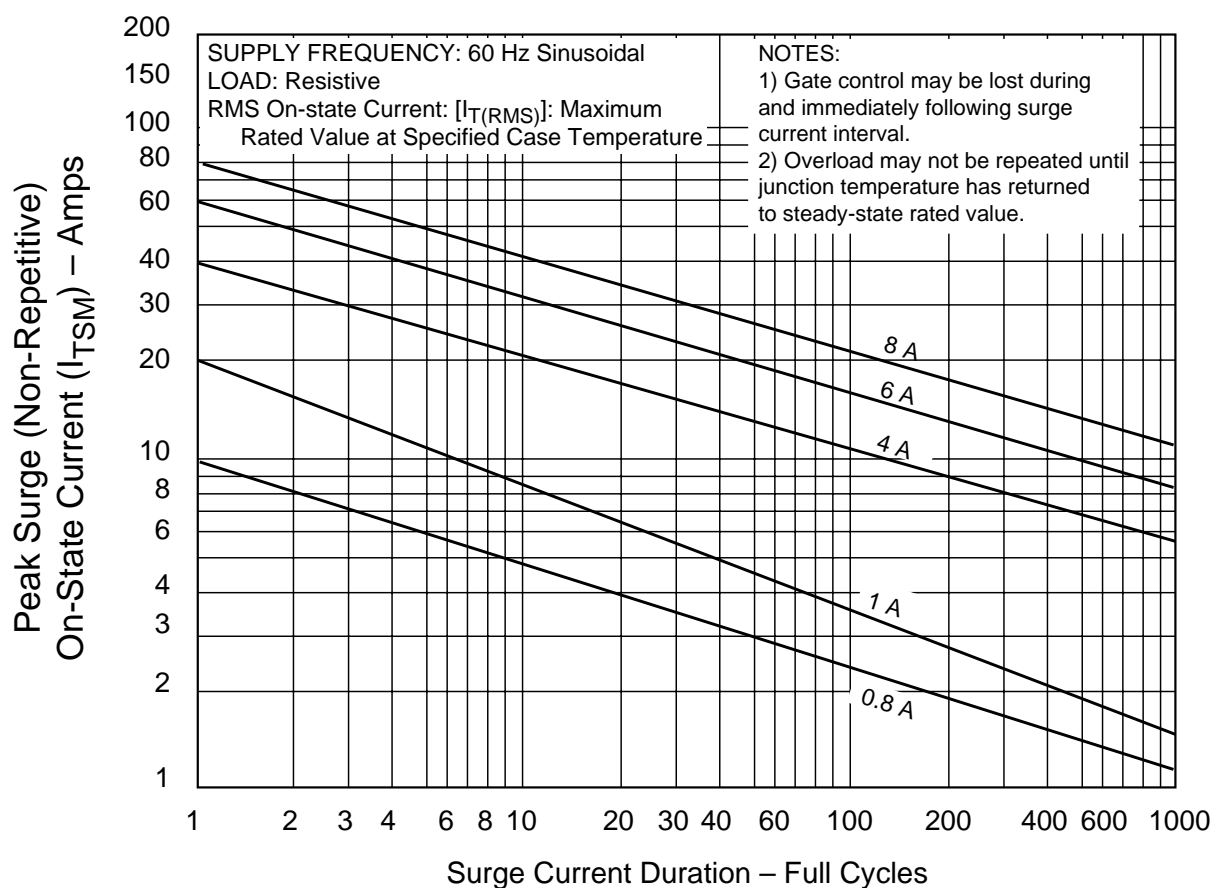

Figure E1.9 Peak Surge Current versus Surge Current Duration
- (8) See Figure E1.9 for surge rating and specific duration.